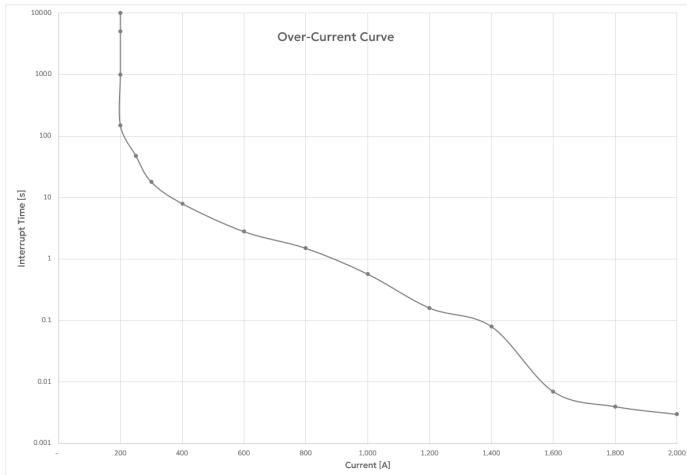

Figure 3. Breaker Protection Time Curve
- (c) For time versus current interrupt details, refer to Figure 3, Over-Discharge Protection Time Curve.